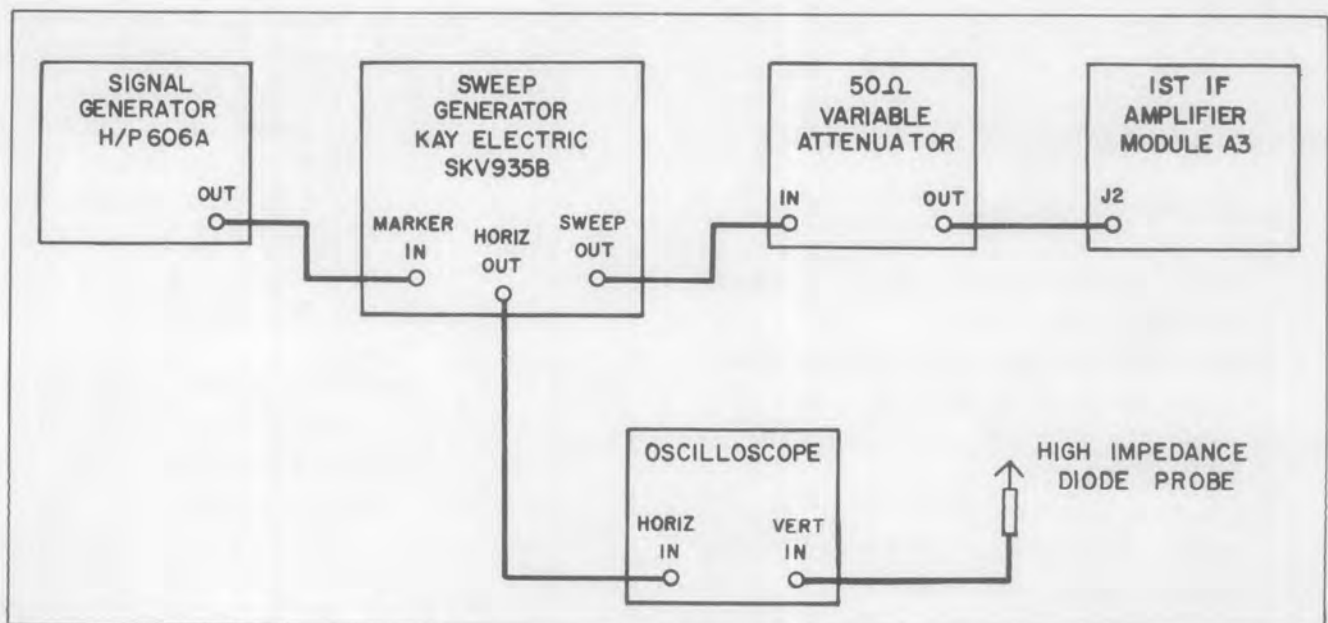

Figure 8. First IF Amplifier Test Set Up
10. Connect the test setup as shown in figure 8.